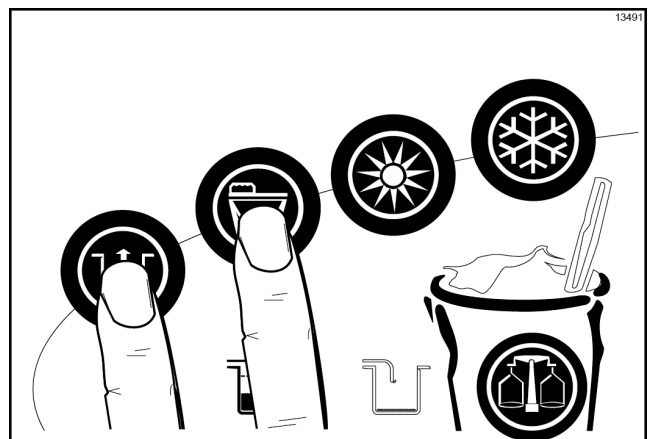

Figure-160
- Press the Wash and Mix Pump symbols  to stop the Wash and Mix Pump modes and to close the draw valve. (See Figure-160.)